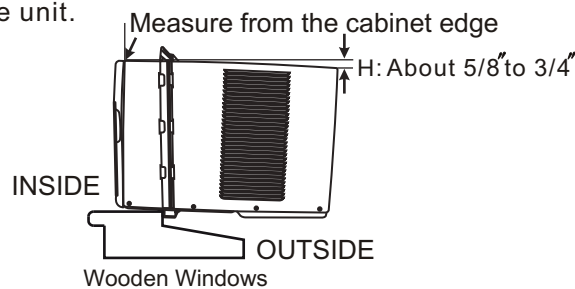

Fig.5
- Keep a firm grip on the air conditioner, carefully place the unit into the window opening so the bottom of the air conditioner frame is against the window sill (Fig.5). Carefully close the window behind the top rail of the unit.
NOTE: Check that air conditioner is tilted back about H (Fig.5)(tilted about 3° to 4° downward to the outside). After proper installation, condensation should not drain from the overflow drain hole during normal use. Correct the slope otherwise.